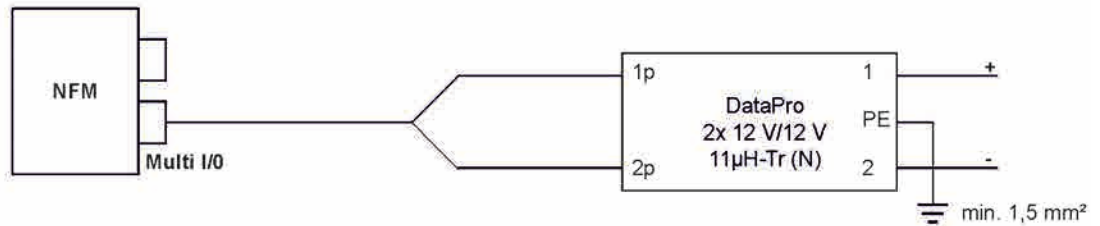

Fig. 25-4 General overvoltage protection for DC power supply
For **direct external power supply** using 12 V DC (e.g. solar power) the type DataPro 2x1 12V/12V-11µH-Tr(N) for non-Ex (Fig. 25-4) is recommended.